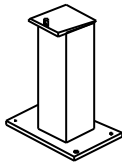

Figure 3
- a. HT190/230/300 Beam Tower (refer Figure 3)